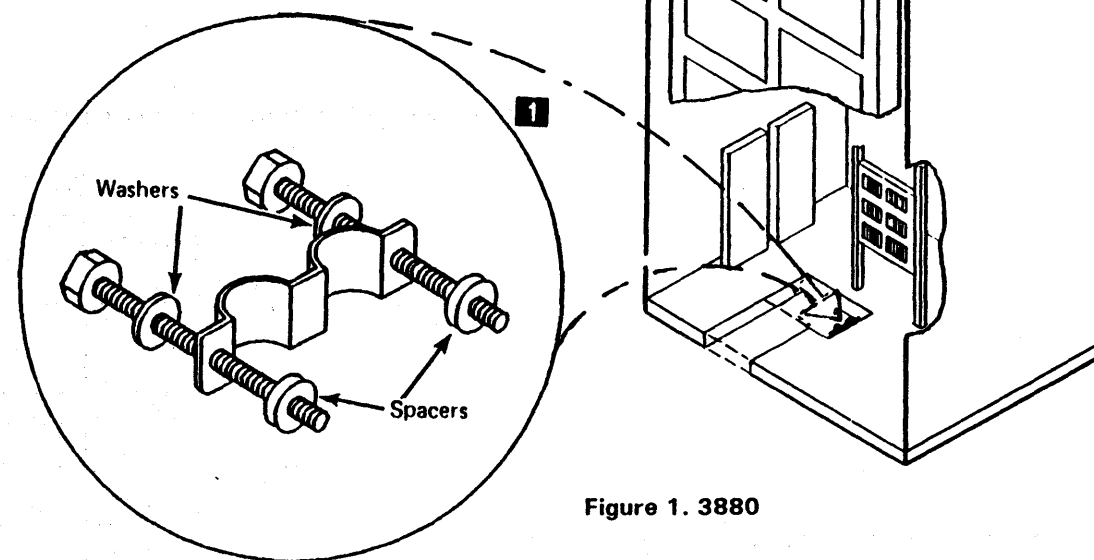

Figure 1. 3880
8. Clamp the cables to the 3880 frame at **1** (see Figure 1), using the clamp, spacers, washers, and screws supplied. Tighten the screws enough to hold the cables tightly, but do not crush the wires in the cable.